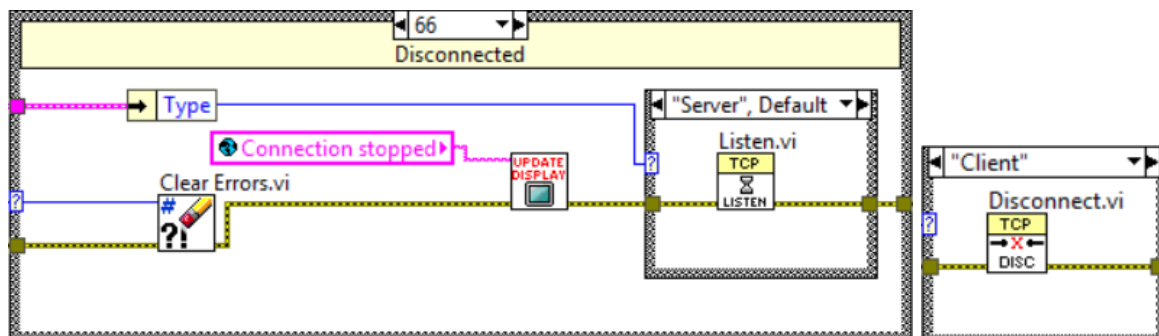

Fig. 4. Part of Error case in the Read case of TCP
- b) Update **Error case** for disconnection error (code 66) according to Fig 4.